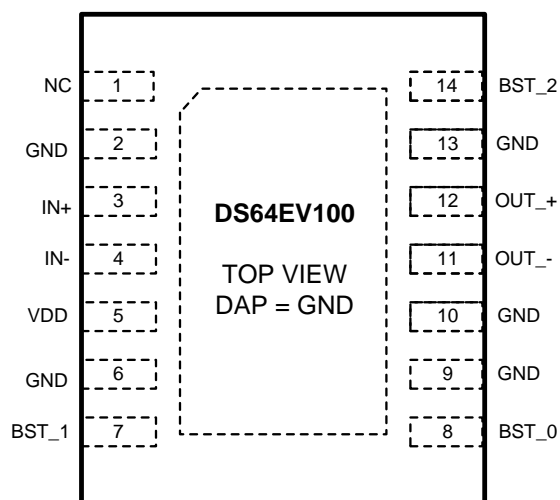

Figure 1. 14-Pin WSON Package
(4) Measured with clock-like {11111 00000} pattern.
(5) Measured with clock-like {11111 00000} pattern.
(6) Specification is guaranteed by characterization at optimal boost setting and is not tested in production.
(7) Deterministic jitter is measured at the differential outputs (point C of Figure 1), minus the deterministic jitter before the test channel (point A of Figure 1). Random jitter is removed through the use of averaging or similar means.
(8) Random jitter contributed by the equalizer is defined as $\sqrt{J_{OUT}^2 - J_{IN}^2}$. J_{OUT} is the random jitter at equalizer outputs in ps_{rms}, see point C of Figure 1; J_{IN} is the random jitter at the input of the equalizer in ps_{rms}, see Figure 1.